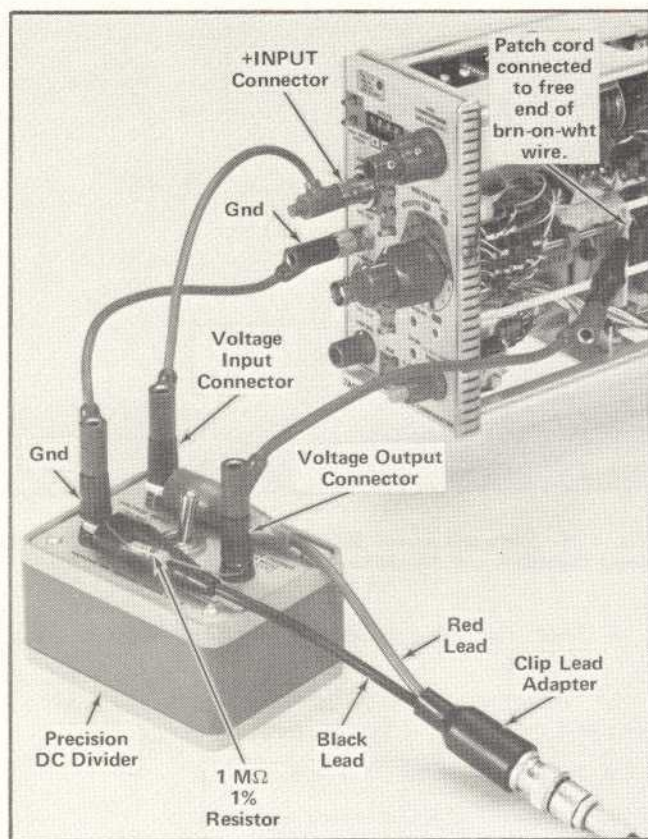

Fig. 5-8. Closeup view of the Precision DC Divider interconnections to the Type 7A13.
c. Connect a 6-inch patch cord from the Type 7A13 +INPUT connector to the Precision DC Divider Voltage Input connector (see Fig. 5-8).